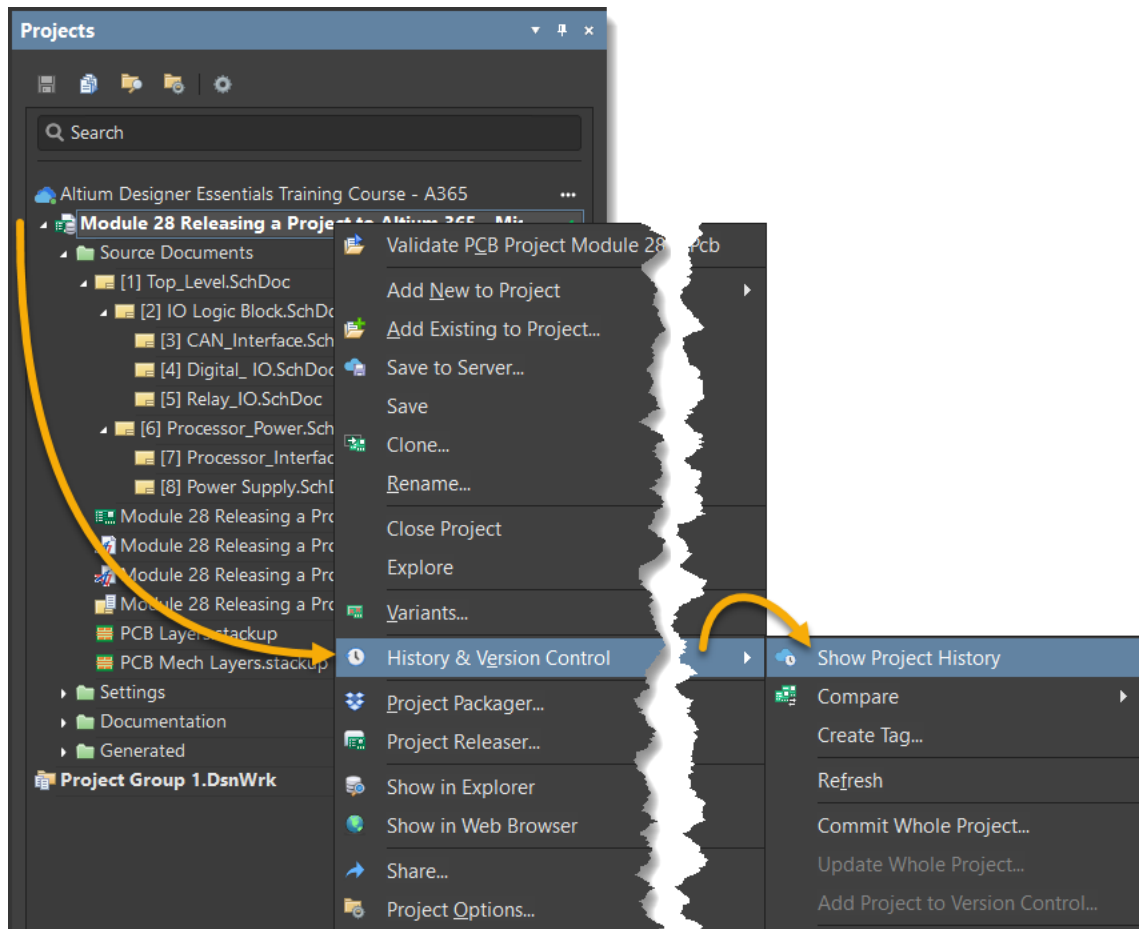

Figure 10. Open the Project History view
37. At the *Project* panel, select the Project, right-click and execute the command **Show Project History**, Figure 10.